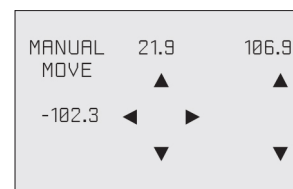

Fig. 24
2. Using the Up and Down arrows on the right side of the screen, move the Aluminum Print Plate to its lowest position.(Fig. 24)